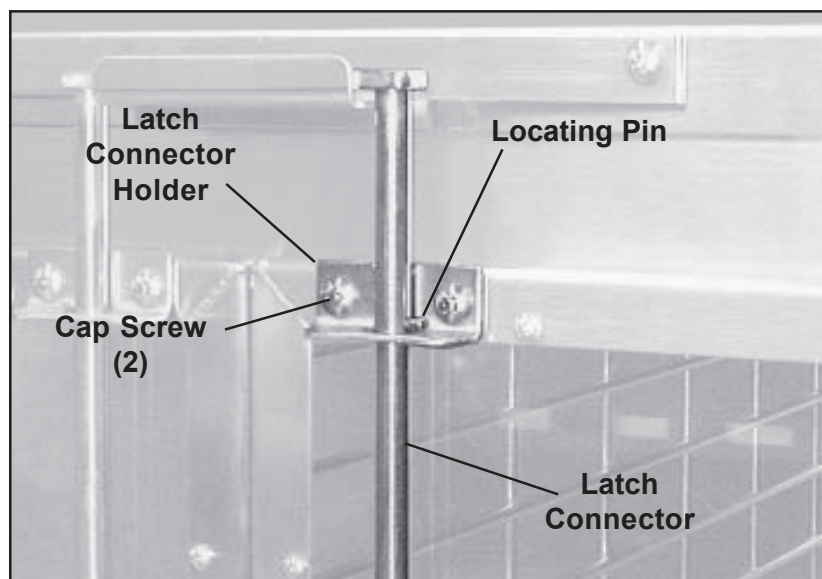

Figure 86. Latch Connector and Holder
2. With a Phillips screwdriver, remove the two cap screws that secure the latch connector holder to the unit (Figure 86) and remove the holder from the door.
1. Hold the latch connector holder in place on the door and secure with the two cap screws. **Note:** The locating pins (Figure 86) in the latch connector should ride above the top latch connector holder, and under the bottom latch connector holder.
2. With a Phillips screwdriver, remove the two cap screws that secure the bottom latch connector holder (Figures 86 and 87) and remove the holder from the unit.
Note: The locating pins in the latch connector (Figure 86) should ride above the top latch connector holder, and under the bottom latch connector holder.